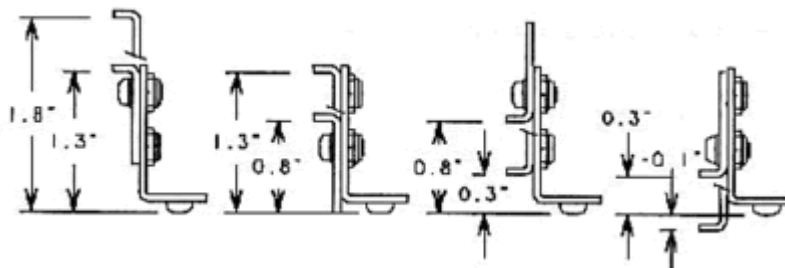

Figure 1: Rail Adjustment Range
The REFLOW RIDER has a 1.9 in (5 cm) height adjustment range to permit your profiler to be vertically centered in the opening of your oven. Figure 1 shows the range of height adjustments for each of the four possible orientations of the outer rails.
- Select the configuration in Figure 1 that covers this height setting. If necessary, remove and reattach the outer rails as shown in the configuration.